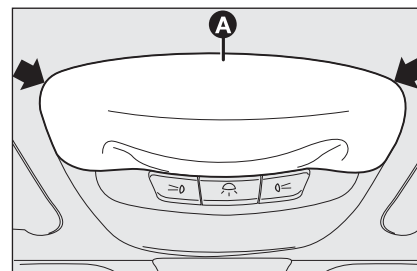

fig. 33
- ❑ work in the points shown by the arrows and remove the plastic shape **A**-fig. 33;